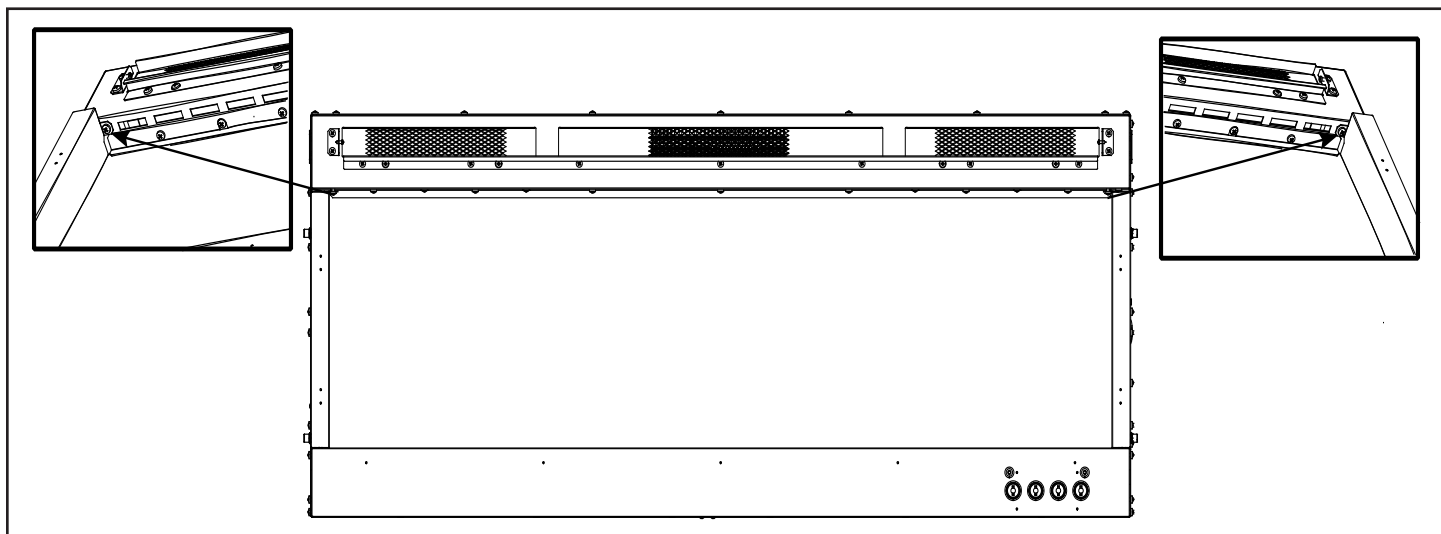

Figure 4. Remove Upper Right & Left Screws
3. Remove appliance the two screws in upper right and left corners of the glass opening. Follow specific instructions from page 1 and 2 for removal of the front glass. See Figure 4.